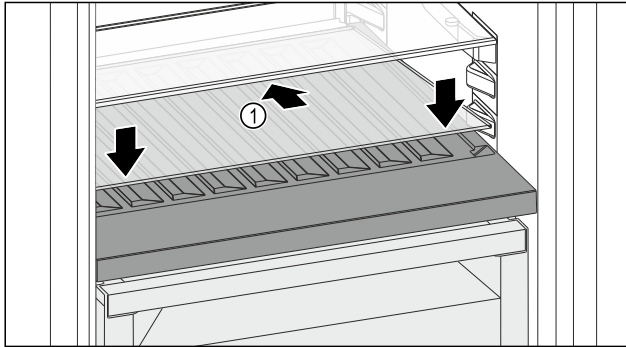

Fig. 163
- ▶ Place the glass shelf Fig. 163 (1) at an angle, sloping it downwards and backwards.
- ▶ Lower the glass shelf Fig. 163 (1) at the front.